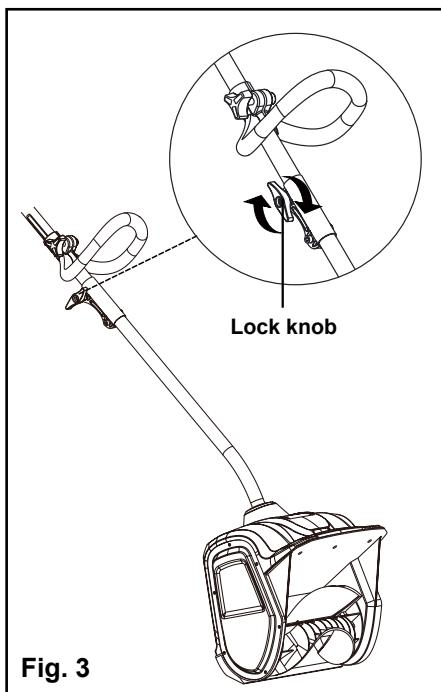

Fig. 3
- Once the two shafts are secured, turn the lock knob clockwise until it is fully tightened. (Fig. 3)